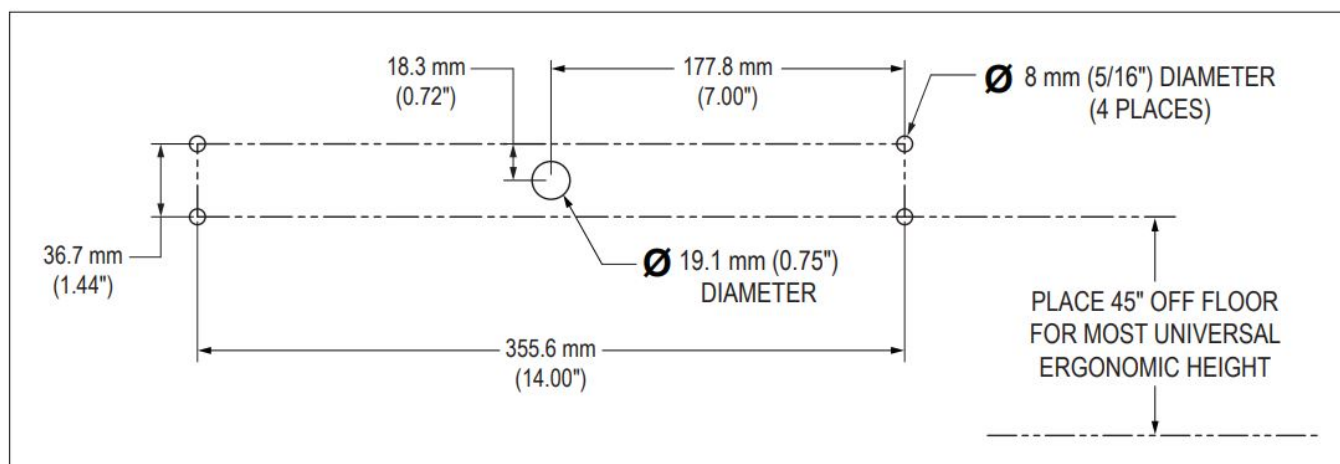

FIGURE 1 – WALL MOUNT CUTOUT PATTERN
1. Cut or drill mounting pattern in panel. Refer to Figure 1 for the cutout dimensions.